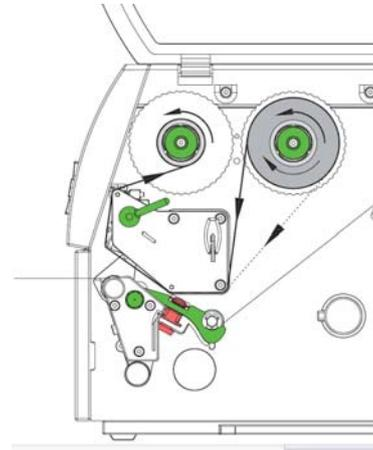

Figure 10 Feed path of transfer ribbon
2. Turn lever (4) anti clockwise to lift the print head.
3. Slide transfer ribbon roll (1) onto the ribbon supply hub (2) until it stops and so that the colour coating of the ribbon faces downward when being unwound. No rotation direction is specified for the ribbon supply hub (2).
4. Hold transfer ribbon roll (2) firmly and turn knob on ribbon supply hub (3) anti clockwise until the transfer ribbon roll is secured.
5. Slide suitable transfer ribbon core onto the transfer ribbon take-up hub (4) and secure it in the same way.
6. Guide transfer ribbon through the print unit as shown in Figure 10.
7. Secure starting end of transfer ribbon to the transfer ribbon core (4) with adhesive tape. Ensure anti clockwise rotation direction of the transfer ribbon take-up hub here.
8. Turn transfer ribbon take-up hub (4) anti clockwise to smooth out the feed path of the transfer ribbon.
9. Turn lever (6) clockwise to lock the print head.